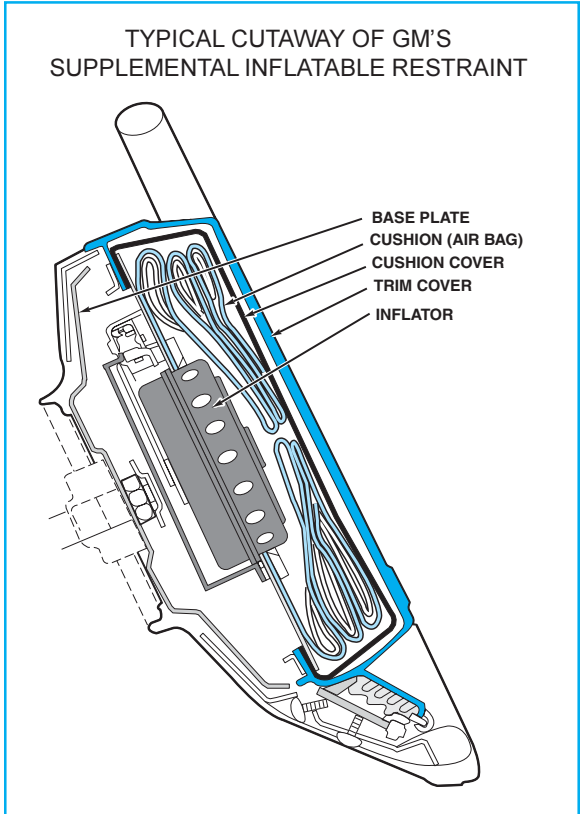
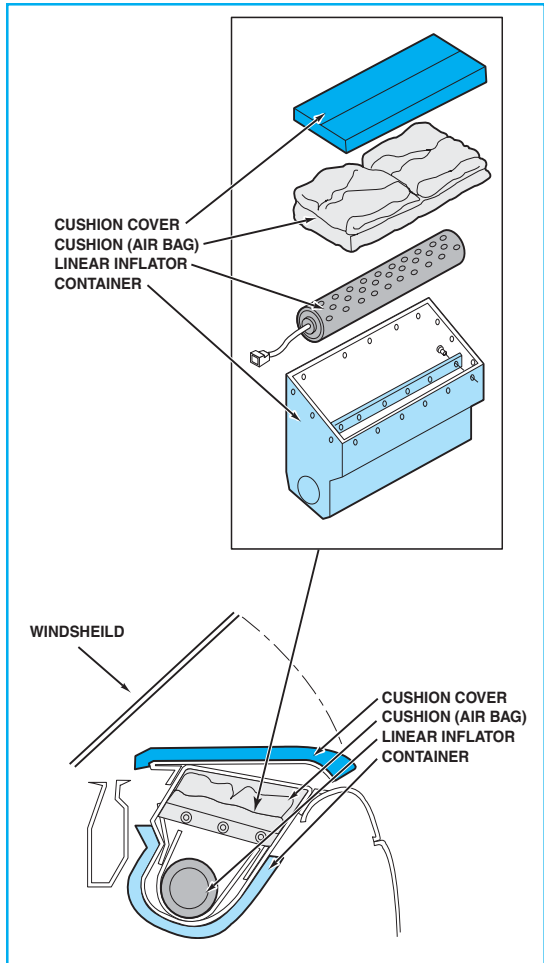

Figure 2
Figure 3
***A*** In the highly unlikely event that the disk-shaped driver inflator canister (see Figure 2), tube-shaped passenger inflator (see Figure 3) or linear inflator (not shown here) is ruptured in a crash or in rescue operations, do not touch or ingest any exposed chemicals.